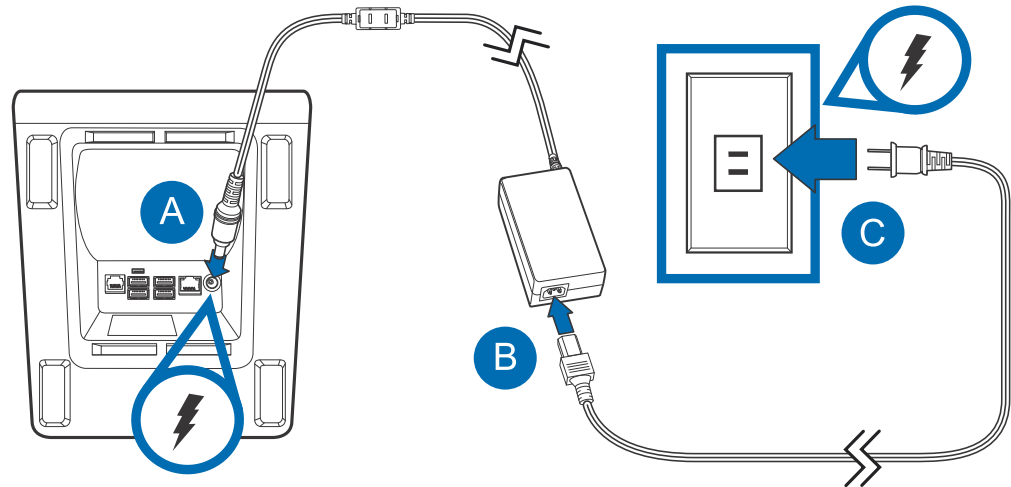

Figure 11 Power Connection
- 2 Insert the round barrel connector (see A in Figure 11) into the power port.
- 3 Connect the power adapter to the power brick (see B in Figure 11).